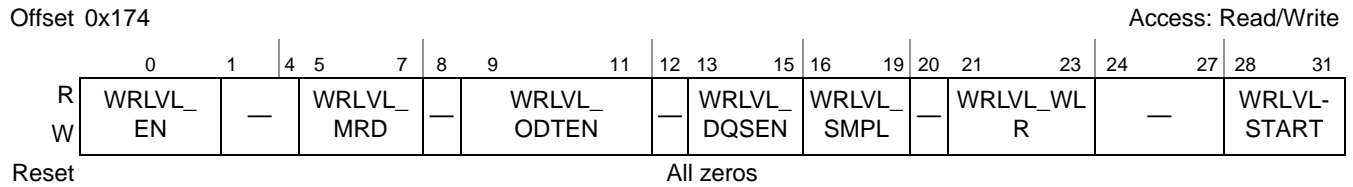

Figure 8-22. DDR Write Leveling Control Register (DDR_WRLVL_CNTL)
8.4.1.21, 8-42 In Figure 8-22, “DDR Write Leveling Control Register (DDR_WRLVL_CNTL)”, update the bit range for WRLVL_START from 27–31 to 28–31. The updated figure is shown below: